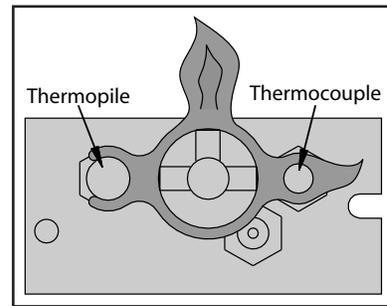
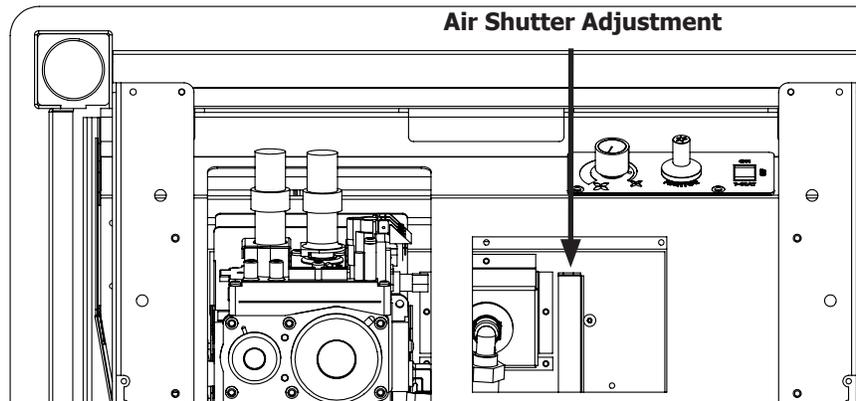
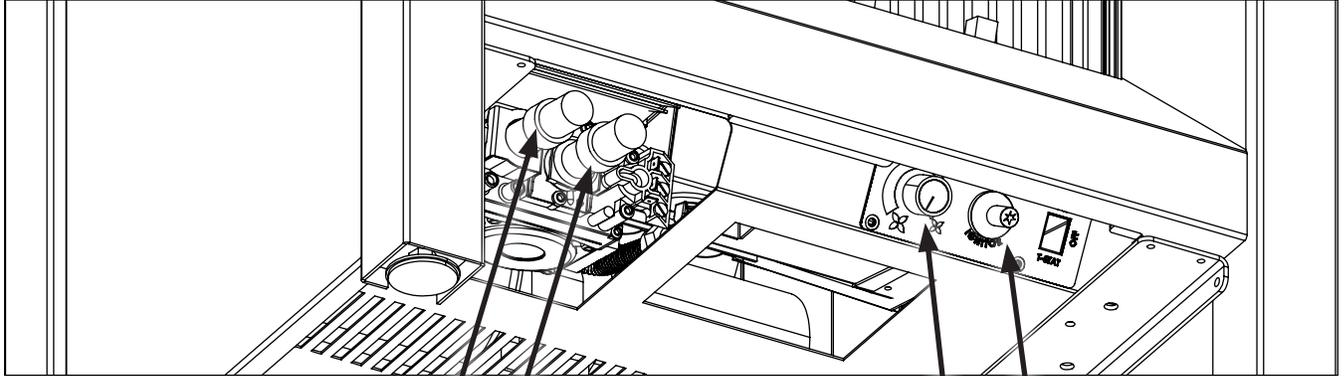

Figure 3. Pilot Flame
Figure 4. Air shutter adjustment lever.
Figure 5. Control Panel
1. Turn off the gas to the fireplace. **If not recently done, remove the glass and let the unit air out for at least five (5) minutes to clear out any gas.** Turn on gas to the appliance.
2. Start the pilot by pressing the gas control knob (Figure 5) and turning it to PILOT (counter clockwise). You will feel the knob depress in PLILOT. While holding the gas control knob in, press the piezo ignitor several times until the pilot light starts. Hold the gas control knob in for 30 seconds, the pilot should now stay lit with out depressing it. Check that the pilot has fully engulfed the thermocouple assembly (see Figure 3).
The air shutter adjustment lever is located on the right hand side of the venturi box (see Figure 4) . To adjust the air shutter reach through the rectangle shown in the cabinet bottom. The air shutter allows the amount of air coming into the fireplace to be adjusted in order to accommodate different climates and venting arrangements. Start the pilot and then the burner. Make sure the pilot flame is burning normally and none of the burner ports are plugged. Let the fireplace burn for roughly fifteen minutes and then examine the flames, compare the flames to Figure 41.
The S20 controls (Figure 5) is located at the front of the unit (Figure 4). For easier access to controls the face can be removed. To light the burner correctly follow the steps below:
The blower will come on only when the fireplace is up to temperature (approximately 15 minutes). The speed of the fan can be changed by turning the fan control knob. The blower will continue to operate automatically after the unit has been shut off (approximately 25 minutes). To turn the blower off, turn the fan control knob COUNTER CLOCKWISE until it "clicks" off (Figure 5).